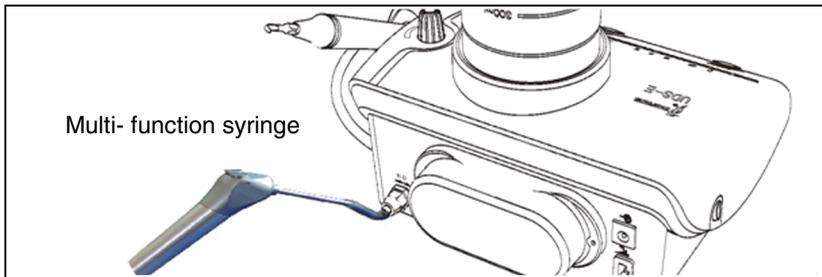

Fig. 10
- b) [Note 2] Clean the water pipe with the Multi-function syringe of the dental unit (See Figure 10):